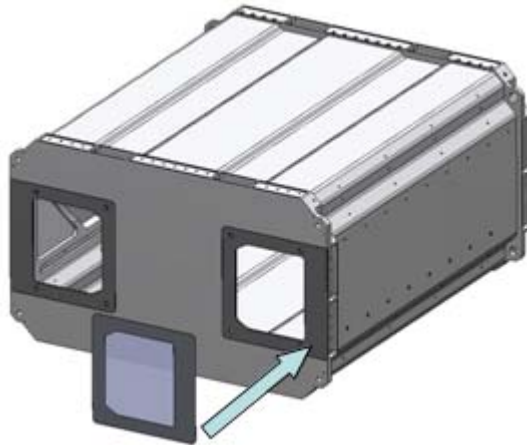

Figure 5.- Inlet/Outlet Ducts on Rear of ABRS.
- ABRS 3.1 Inspect INLET and OUTLET ducts on rear of ABRS. If debris present, clean using gray tape. Refer to Figure 5.
ABRS. Refer to Figure 5.